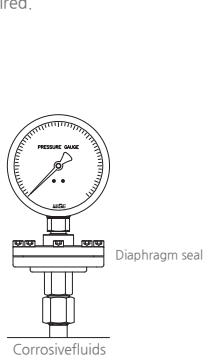

Figure. 1
- 1) If the fluid contains any corrosive agents, it will directly deliver to the Bourdon Tube, and it could damage the tube. Therefore, it is recommended that the user chose "Diaphragm Seal Type" pressure gauge. (Figure. 1)